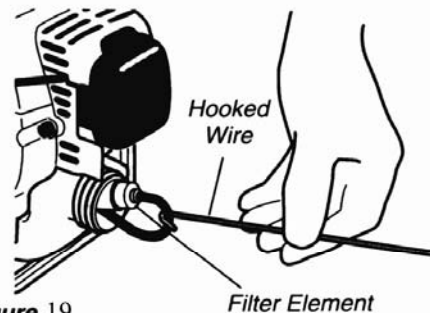

Figure 19
- Use a wire hook to extract the fuel filter from inside the fuel tank (Figure 19). Inspect the fuel filter element for signs of contamination. Replace it with a new one if required. Before reinstalling the filter, inspect the fuel line. If you find damage or deterioration, remove the unit from service until it can be inspected by trained service technician.